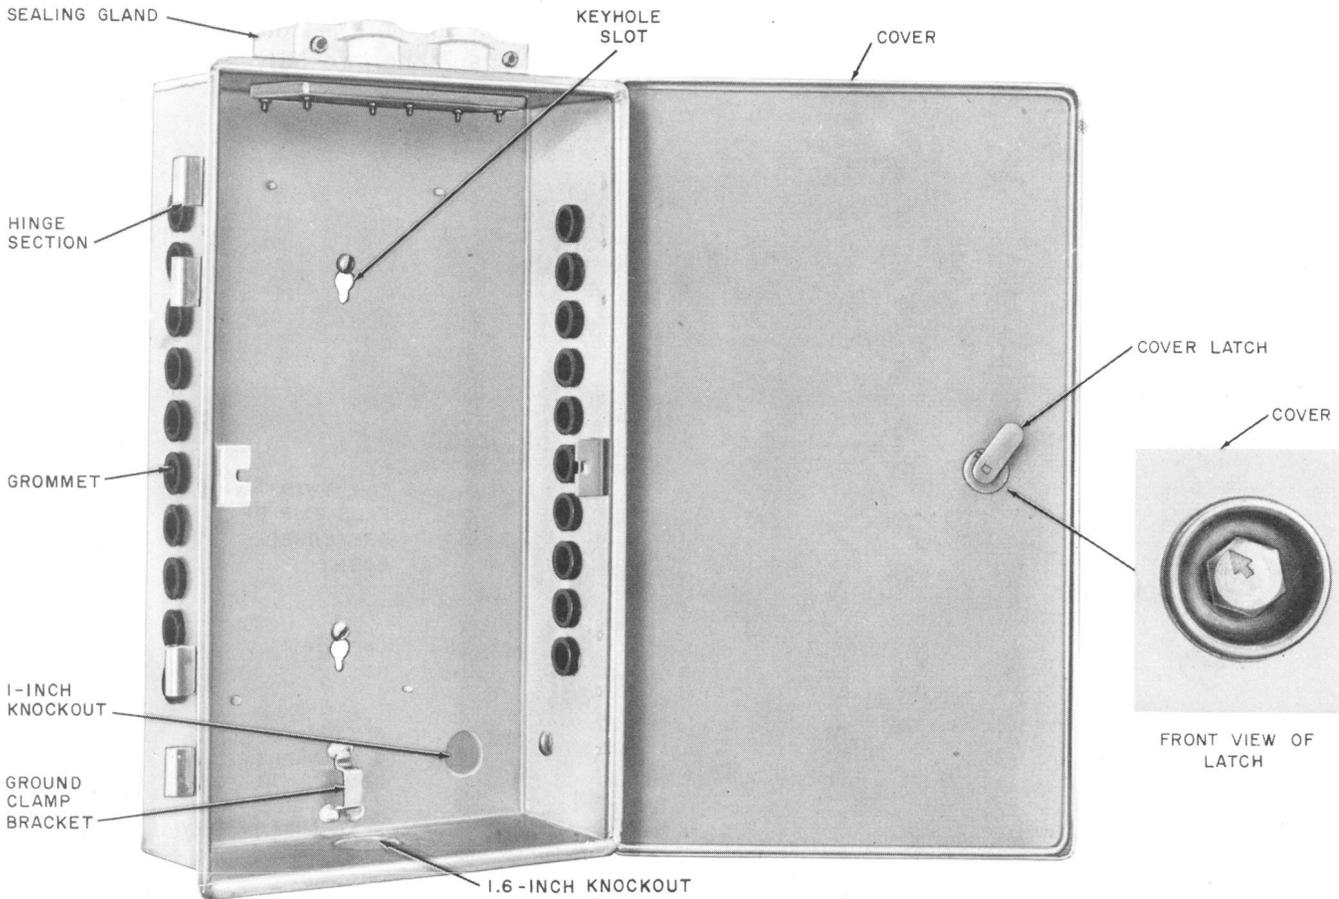

Fig. 12—5A1 Closure
7.01 The 5A1 (Fig. 12) and 5B1 closures were designed for use at junctions of wire and cable at ready access points. Table D lists the characteristics of these closures.